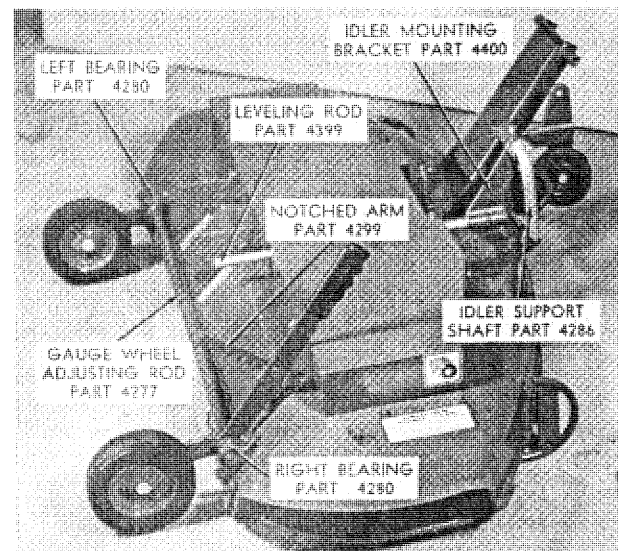

Figure 1
Install idler mounting bracket, Part 4400, by inserting leveling rod, Part 4399, through deck as shown in Figure 1. Insert idler support shaft, Part 4286, into idler mounting bracket and deck as shown in Figure 1. Secure with (4) $\frac{3}{4}$ " washers, Part 1278 and (4) $\frac{5}{32}$ x $1\frac{1}{2}$ " cotter pins, Part 932026-4.